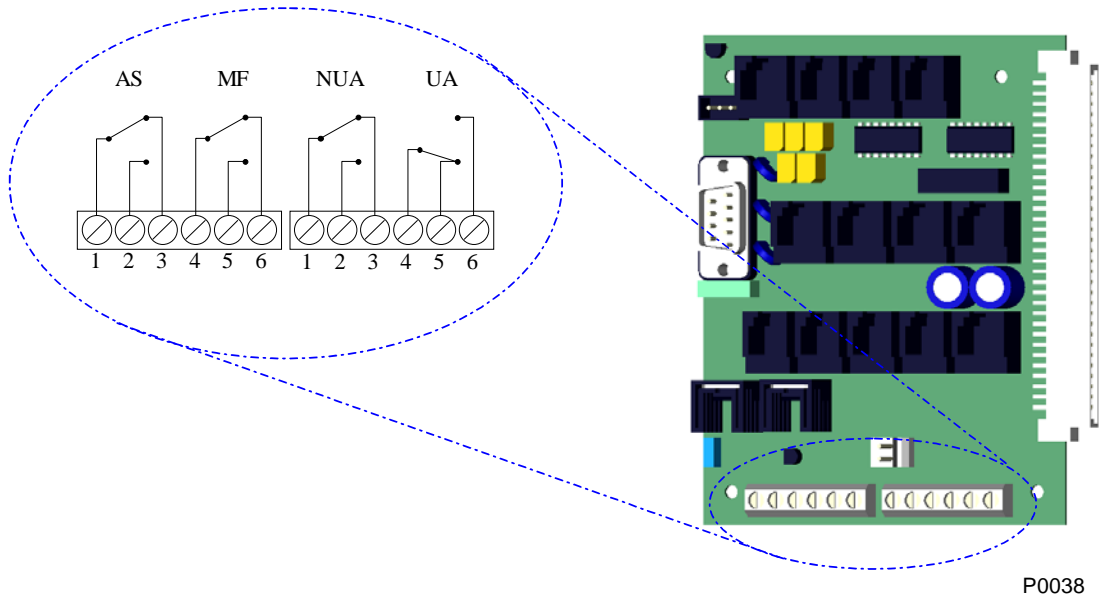

Figure 7. Alarm connections and the connection card (COBOMO).
- Step 1** Connect the remote alarm cable to their screw terminal in the COBOMO-card (Fig 7). The alarms are usually connected so, that the alarm circuit is closed and in a case of a fault the circuit opens.